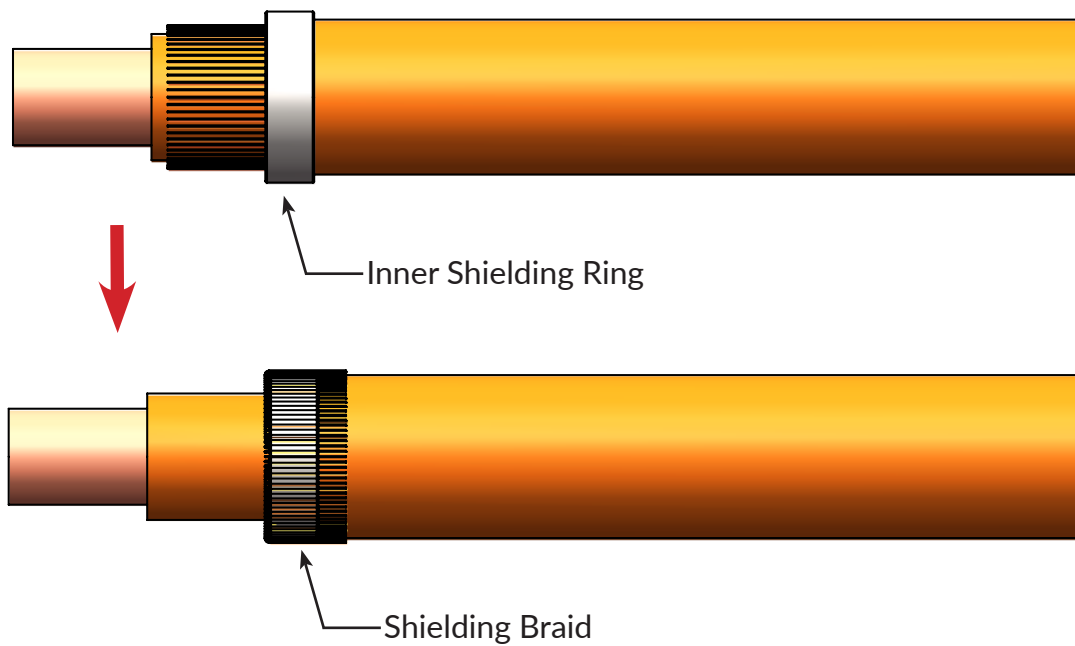

Figure 5
4) As figure 5 shown, move the inner shielding ring align with the left surface of outer jacket of the cable, fold back the shielding braid to cover the outer surface of the inner shielding ring;